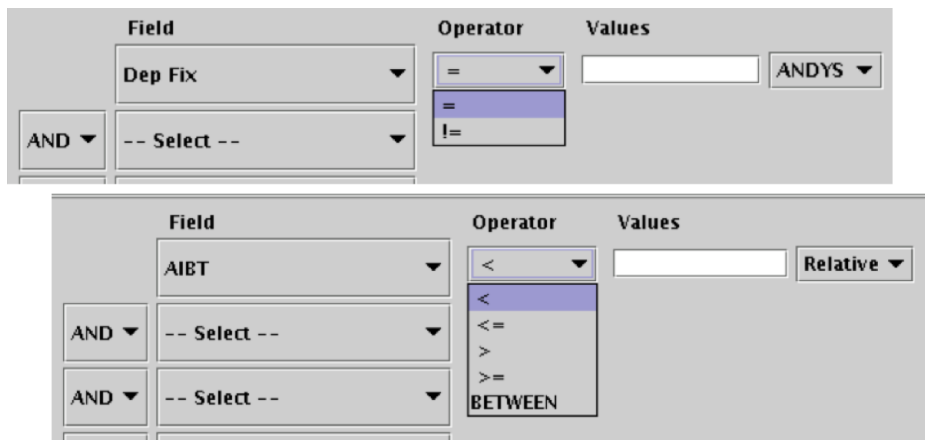

Figure 62. Select an operator to filter by.
**Step 3:** Once the field is selected, select the operator by clicking on the “=” drop-down button (see Figure 62). Up to 5 options for the operator are possible for a single “Field”, depending on the “Field” selected (7 total possible operators):